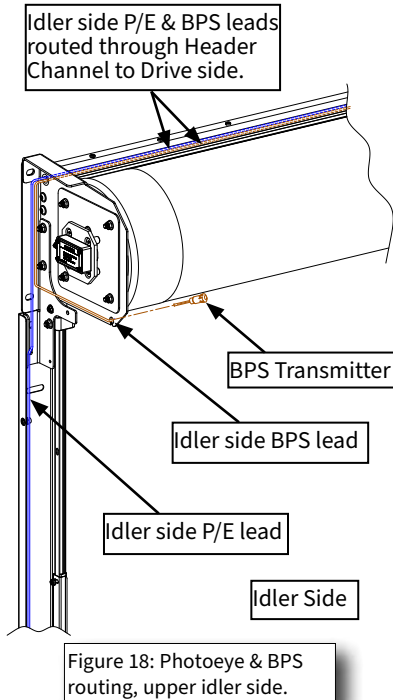

Figure 18: Photoeye & BPS routing, upper idler side.
2. Route the leads on idler side up through Face Frame channel, through grommet in idler side Header Plate, and through Header Channel to drive side of Header (Figure 18 & 20).
3. Insert BPS Sensor Photoeye into hole in lower front corners of Header Flag Plate. Route lead along with Photoeye lead(s) through Header Channel (Figure 18 & 20).